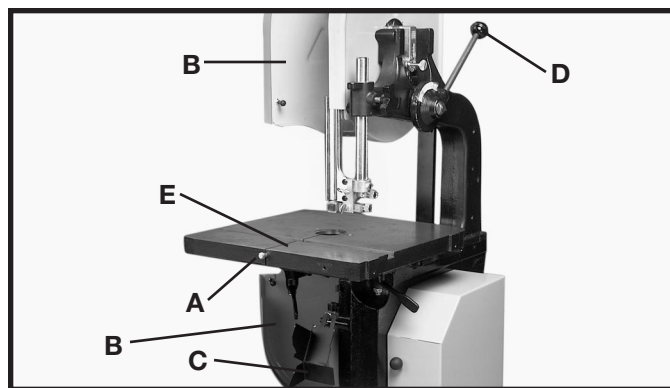
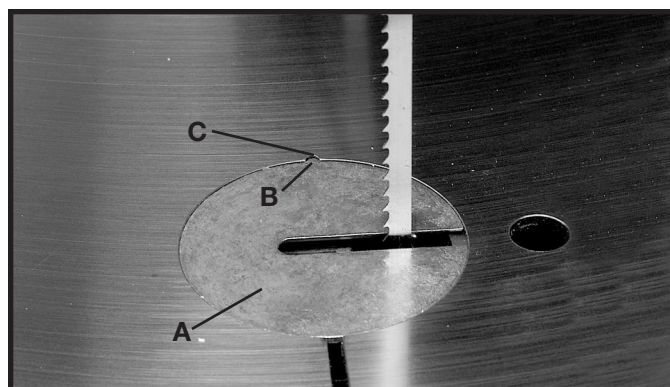

Fig. 31
Fig. 33
1. Remove the table pin (A) Fig. 31 from the table.
2. Open the two wheel guard doors (B) Fig. 31, and the blade guard door (C).
3. Make sure the quick tension lever (D) Fig. 31, is positioned to the right of the machine as shown.
4. **MAKE SURE THAT THE TEETH ON THE BLADE ARE POINTING DOWN TOWARD THE TABLE WHEN INSTALLED AS SHOWN IN FIG. 33. IF NOT, TURN BLADE INSIDE OUT.** Slide the band saw blade, (teeth facing out), through the slot (E) Fig. 31, in the band saw table.
6. Replace the table pin (A) Fig. 31. Table alignment pin should be re-seated by gently tapping it with a hammer.
7. Close the two wheel guard doors (B) Fig. 31, and the blade guard door (C).
Place table insert (A) Fig. 33, in opening of table. **NOTE:** A tab (B) is provided on insert that engages with notch (C) in table opening.